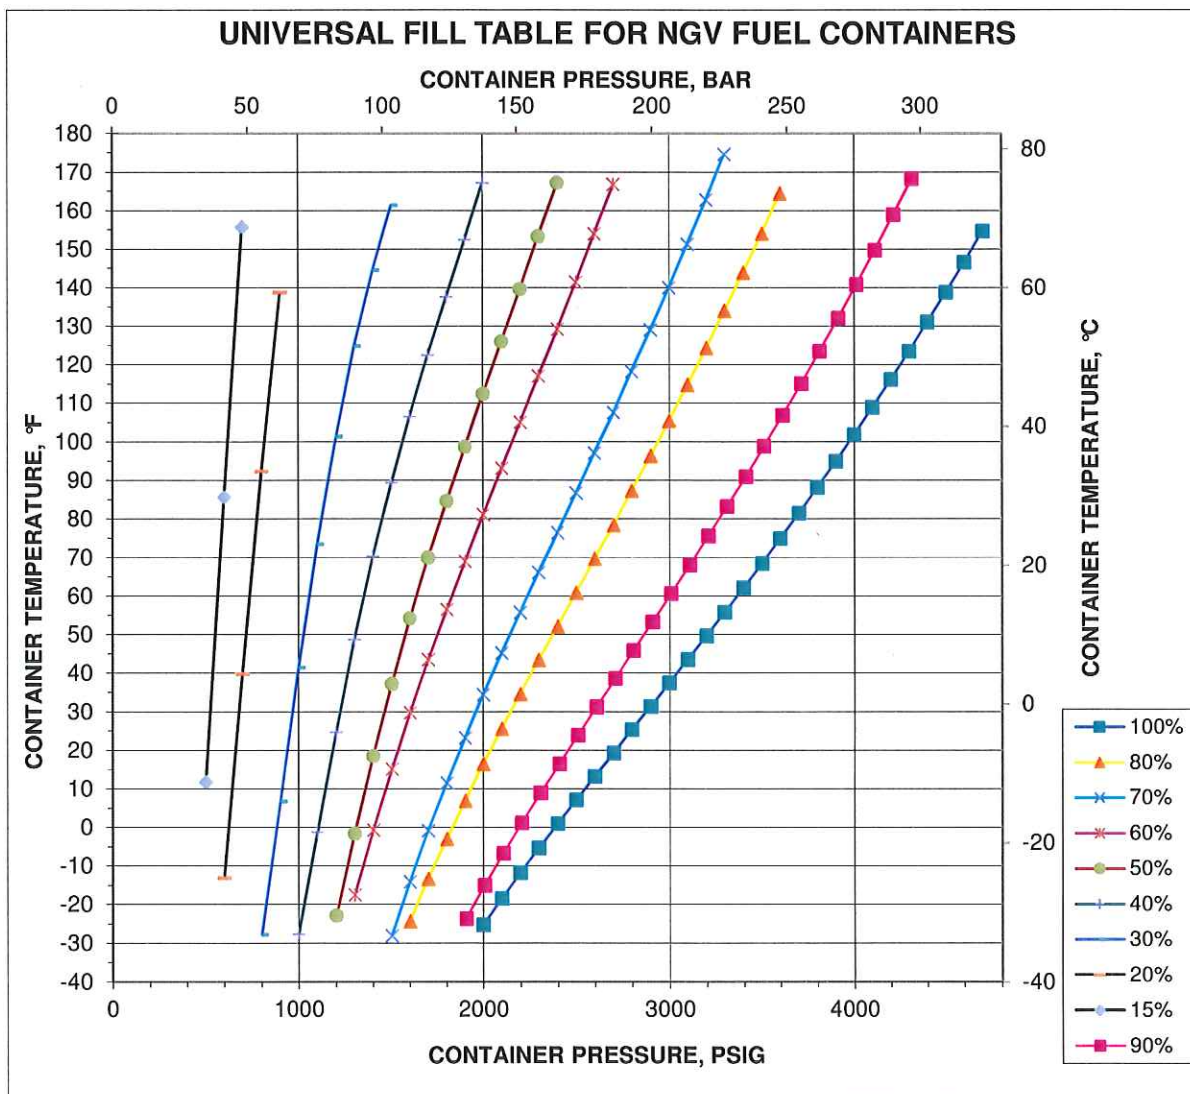

Figure 20: Percent Fill as a Function of Temperature and Pressure (SG = 0.58)
14. Continue filling the cylinder(s) until the pressure indicated by the manifold pressure gauge reaches the desired pressure. Do not exceed the maximum fill pressure/temperature combinations as shown in Figure 9. Figure 9 may also be used when performing temperature compensated fills. For example, when filling to 276 barg (4000 psig) and approximately 60 °C (140 °F) this will result in a 90% fill. See Figure 20.